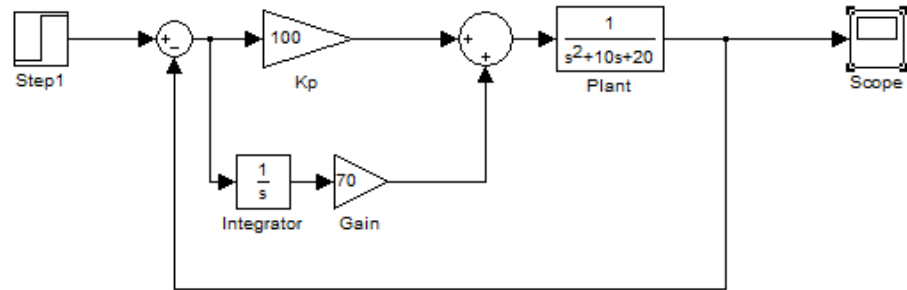

Fig. 9. Closed loop system with PI controller
- k. Now create a PI controller as in Fig. 9 to the closed loop system. Observe the output waveform by changing the K_i value from 70 to 100.